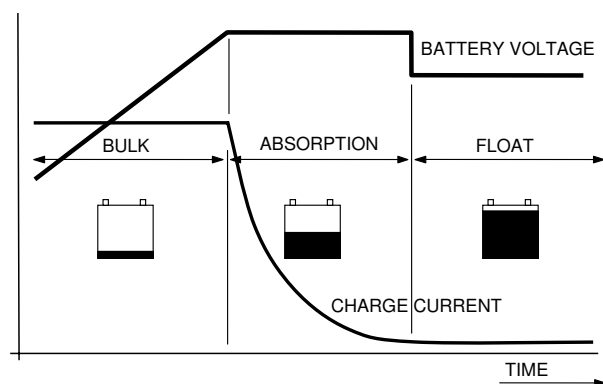

Figure 2: Three step plus charge system
See figure 2. The first step of the three step plus charge system is the BULK phase (A), in which the output current of the charging system is limited by the maximum output current of the alternator and the engine RPM. At this stage the major part of the battery capacity is rapidly charged. The current charges the batteries and the voltage will rise to the absorption voltage. Refer to the specifications for the charging voltages for different batteries.